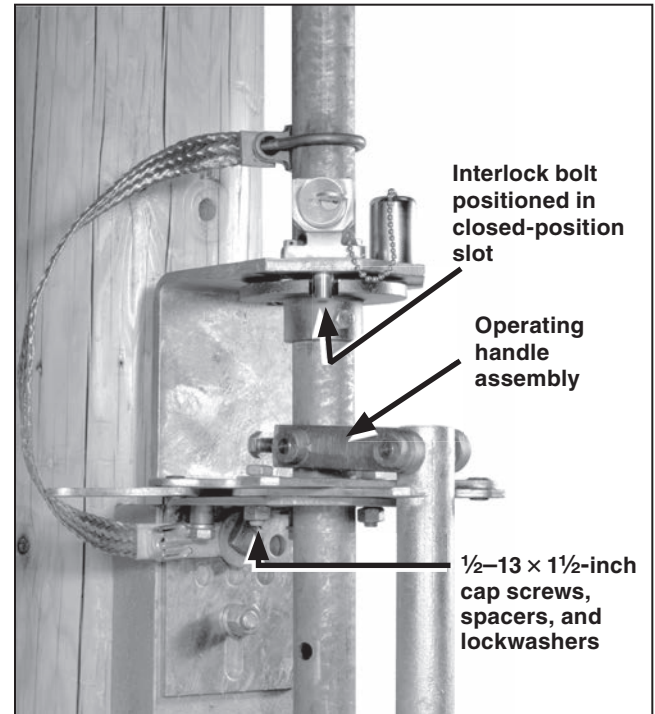

Figure 25. Attach the foot-bearing assembly.
STEP 21. Bolt the foot-bearing assembly to the pole at the position shown on the erection drawing. Use one of the mounting bolts to attach one end of the grounding strap (the end with the grounding connector attached) to the foot bearing assembly. See Figure 25.
Tighten the piercing set screw on the operating handle assembly piercing the pipe. Continue turning until a firm resistance is felt. See Figure 25.